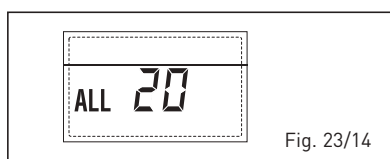

Fig. 23/14
- ANOMALIA GUASTO Sonda MANDATA PRIMA ZONA MISCELATA “ALL 21” (fig. 23/15)